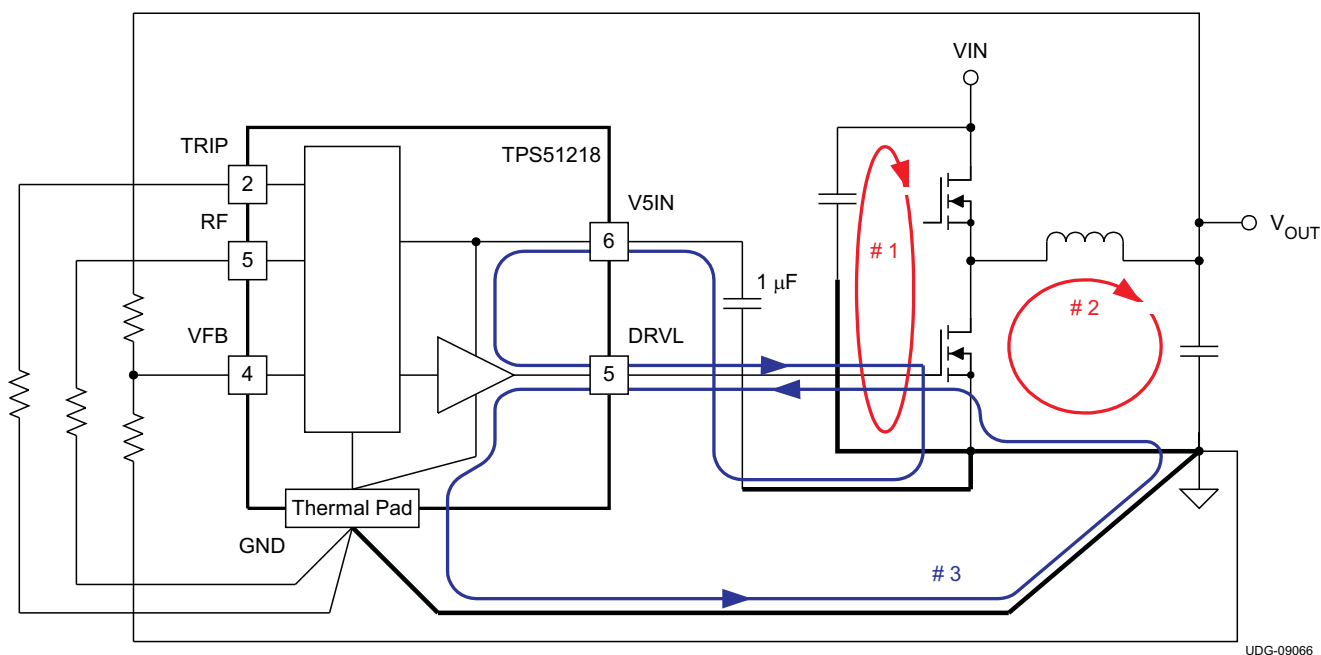

Figure 19. Ground System of DC/DC Converter Using the TPS51218
- The most important loop to minimize the area of is the path from the V_{IN} capacitor(s) through the high and low-side MOSFETs, and back to the capacitor through ground. Connect the negative node of the V_{IN} capacitor(s) and the source of the low-side MOSFET at ground as close as possible. (Refer to loop #1 of Figure 19)
- The second important loop is the path from the low-side MOSFET through inductor and V_{OUT} capacitor(s), and back to source of the low-side MOSFET through ground. Connect source of the low-side MOSFET and negative node of V_{OUT} capacitor(s) at ground as close as possible. (Refer to loop #2 of Figure 19)
to negative node of the capacitor through ground. To turn off the low-side MOSFET, high current flows from gate of the low-side MOSFET through the gate driver and GND pad of the device, and back to source of the low-side MOSFET through ground. Connect negative node of V_{5IN} capacitor, source of the low-side MOSFET and GND pad of the device at ground as close as possible. (Refer to loop #3 of Figure 19)